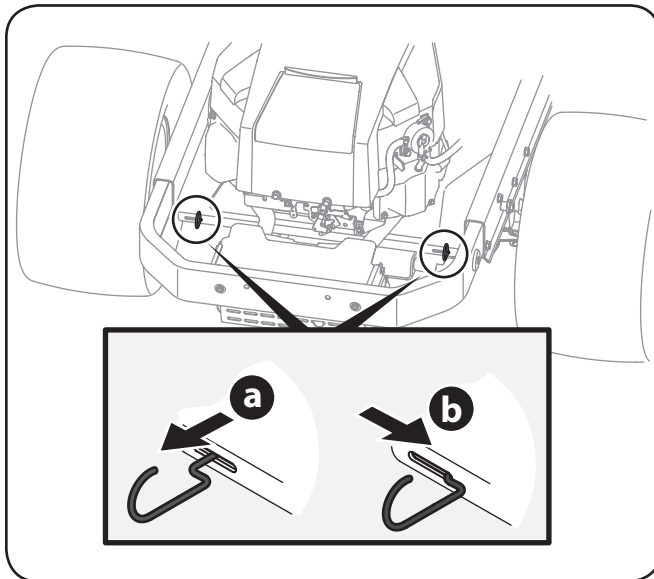

Figure 3-1
4. Engage the transmission bypass rods on each side of the tractor; then carefully roll the tractor off the shipping pallet. The transmission bypass rods (one for each the RH and LH transmission) are located on the rear of the tractor, just inside each rear wheel. Engage the bypass rods by pulling each one out and to the right then letting it return to lock it into place. See Figure 3-1.
5. Disengage the bypass rods after rolling the tractor off the pallet. See Figure 3-1.